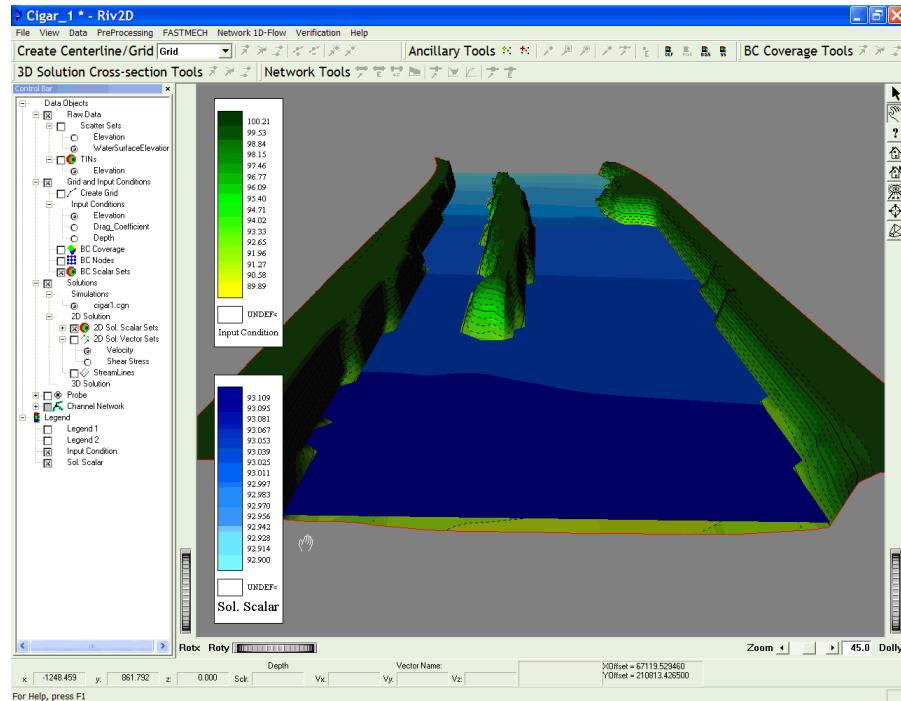

Figure 3.2.1u. Here we have overlain the topography with the model solution for the water-surface elevation
- In the control bar select **2D Solutions / 2D Sol. Scalar Sets / WaterSurfaceElevation**. Make sure the **Solutions** and **2D Sol. Scalar Sets** are both set to on (fig. 3.2.1u).